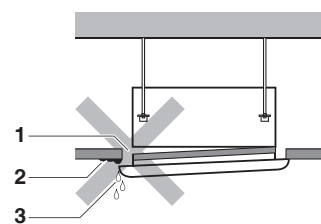

Fig. 5
- Improper tightening of the screws - (See Fig. 5) - may cause air to leak into the unit and between the ceiling and the decoration panel (1), resulting in formation of contamination (2) and dew (3).